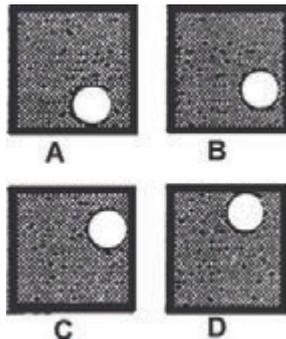

Figure 5-Stop Block Orientation
Step 1) There are four key positions to place the Square Stop Block (3#) in while bending. The four positions (as seen from looking down on the top of the Square Stop Block) are identified in this manual by a letter; A, B, C, or D. See **Figure 5** for the letter and the corresponding position of the Square Stop Block.